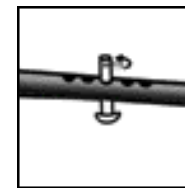

Figure 5
3. **Once the waistbelt is in the correct position, tighten the shoulder straps.** To tighten shoulder straps pull the webbing at the lower ends of the shoulder strap down & back. The top of the load lifter strap should be 3-4" inches above the top of your shoulder (see Figure 5). (Put a little more load on your shoulders than you want to end up with.) During this operation the load-lifter straps should be kept loose.